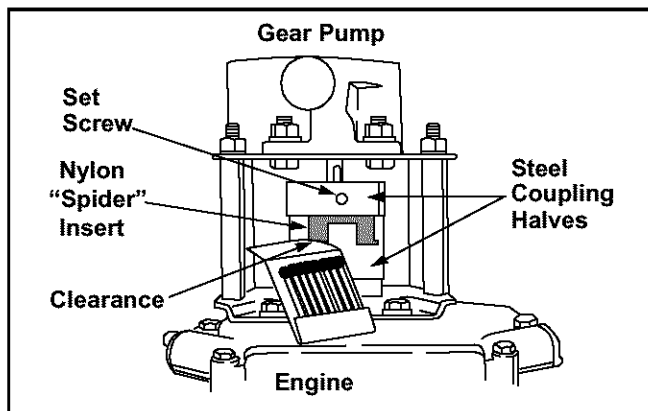

Figure 10
- Set .010" to .060" clearance between the nylon “spider” and the engine coupling half by sliding a matchbook cover between the nylon “spider” and the engine coupling half and moving pump coupling half as needed. Secure pump coupling half with set screw. See Figure 10.